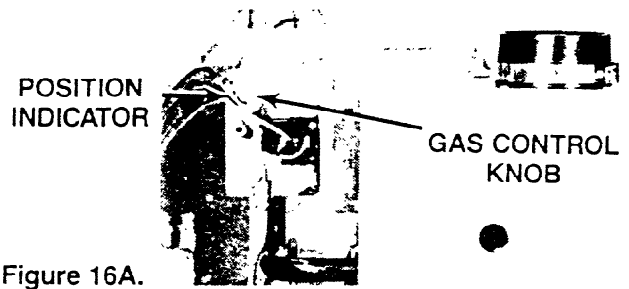

Figure 16A.
6. Rotate the gas valve control knob so that "OFF" is aligned with the position indicator shown in Figure 16A.
7. Wait five (5) minutes to clear out any gas. Then smell for gas including near the floor.
8. If you smell gas, immediately follow the instructions on the front of this manual. If you do not smell gas, rotate the gas valve control knob so that "ON" is aligned with the position indicator shown in Figure 16A.